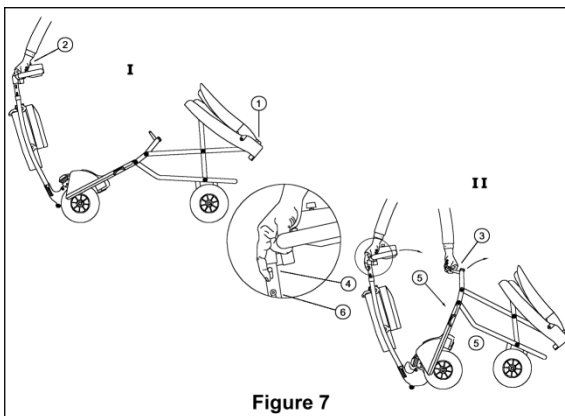

Figure 7
Step 1: Fold backrest of seat down (Fig. 7/1)
Step 2: Hold handgrip of front column (Fig. 7/2) in the “Operating” or “Entry/Exit” position and push forward away from seat to fold platform upwards.
Step 3: Grasp platform handle (Fig. 7/3) and pull column lock triggers (Fig. 7/4) to fold column towards the platform. Fold together until folded frame lock pin (Fig. 7/5) and column latch (Fig. 7/6) click into place and hold *EasyTravel Elite* in folded position.